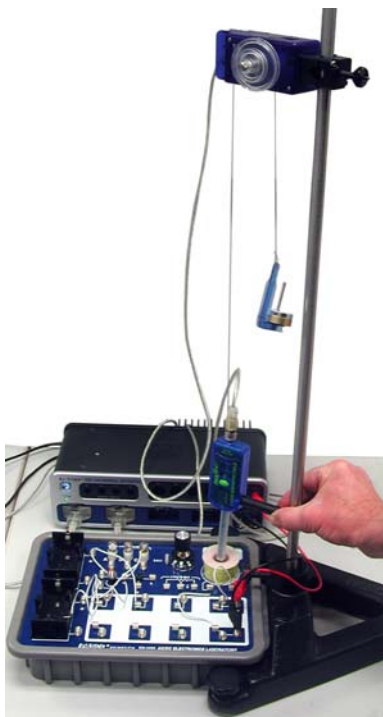
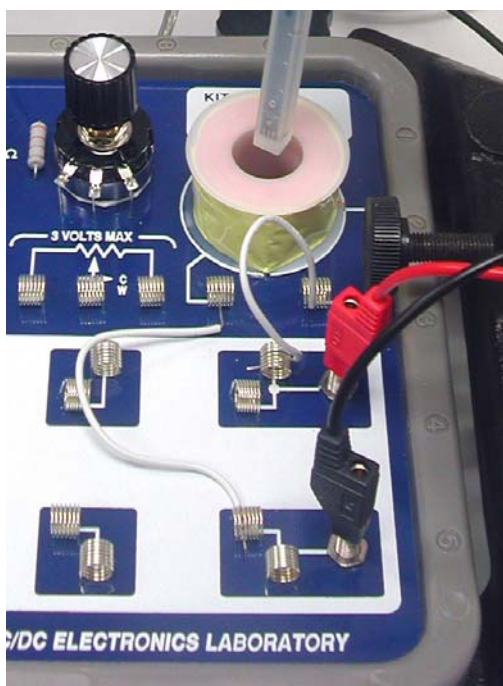

Figure 3: Setup
Figure 4: Circuit Board Connections
2. Connect white wire jumpers from the coil connector springs to the banana inputs for the Electronics Laboratory as shown in Figure 4. Connect red and black patch cords from the Electronics Laboratory inputs to red and black jacks for Output 1 on the 850 Universal Interface.
3. Attach the 90 cm rod to the base and position the base by the Electronics Laboratory as shown in Figure 3.
4. Attach the Rotary Motion Sensor (RMS) to the rod as in Figure 3. Cut a piece of thread about 1 m long. Tie one end of the thread around the strain relief in the cable attached to the Magnetic Field Sensor so it catches in one of the grooves as shown in Figure 4. Pass the other end of the thread over the large step of the RMS pulley and attach a mass holder carrying an additional 60 g of mass.